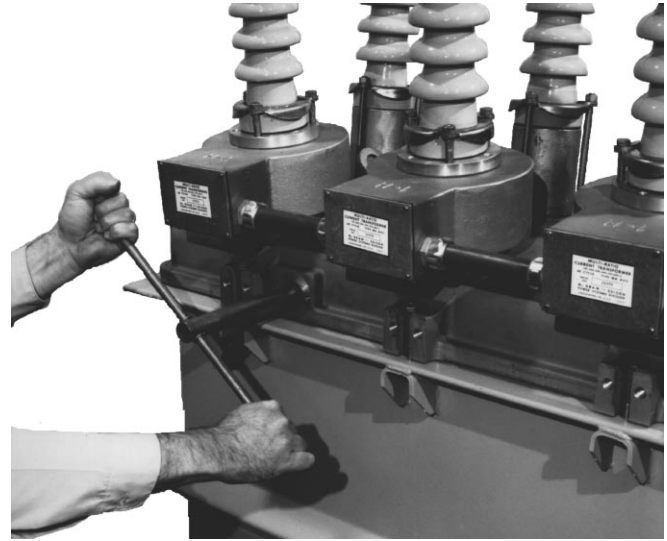

Figure 46. Using a manual closing tool to operate the recloser. 82284KMA-F
2. Insert the tee-handled tool (available as an accessory) into the port, engaging the pin on the closing shaft (Figure 46).